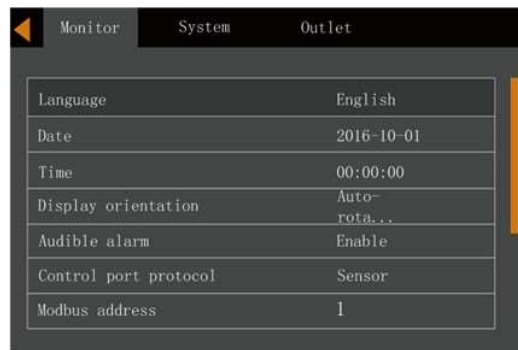

Figure 5-16 Language selection
3. Press the  key to highlight the language, see Figure 5-16.